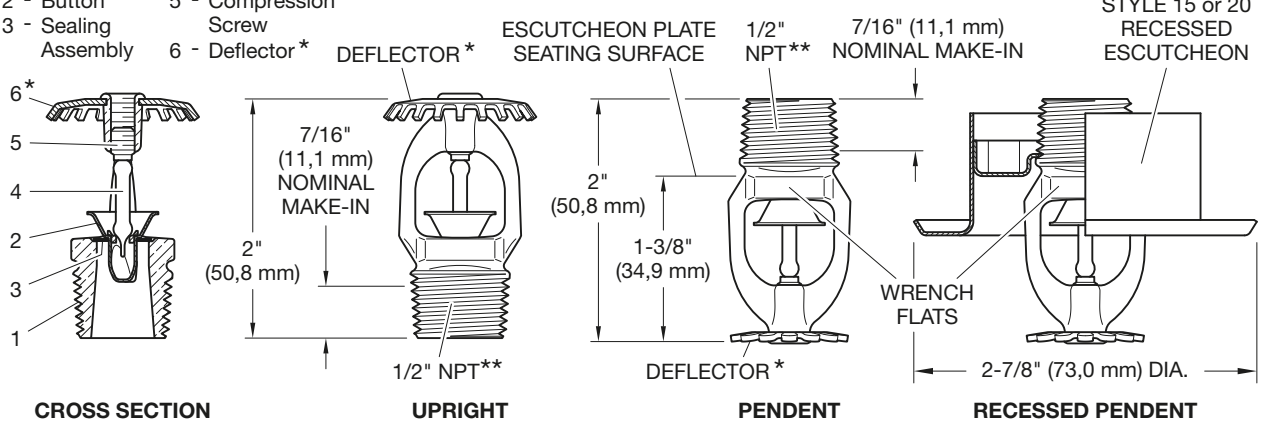
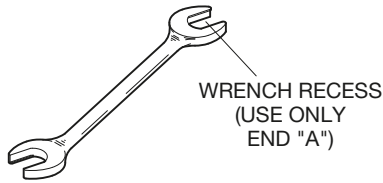
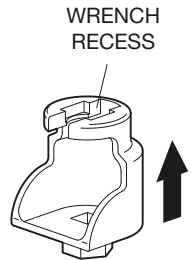

FIGURE 1
FIGURE 2
FIGURE 3
Step 3. Tighten the sprinkler into the sprinkler fitting using only the W-Type 6 Sprinkler Wrench as shown in Figure 2. Apply the W-Type 6 Sprinkler Wrench to the wrench flats as shown in Figure 1. Torque sprinklers 7 to 14 lb-ft (9,5 to 19,0 N·m).
Step B. Tighten the sprinkler into the sprinkler fitting using only the W-Type 7 Recessed Sprinkler Wrench as shown in Figure 3. Apply the W-Type 7 Recessed Sprinkler Wrench to the sprinkler wrench flats as shown in Figure 1. Torque sprinklers 7 to 14 lb-ft (9,5 to 19,0 N·m).